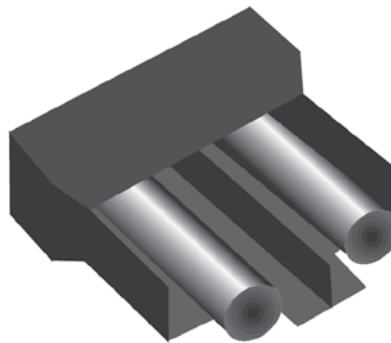

Figure 5.3: The fuse box and holder (with fuses), removed from instrument.
- 6 When removed, the fuse assembly will appear as shown in Figure 5.3. The holder inside contains two fuses.